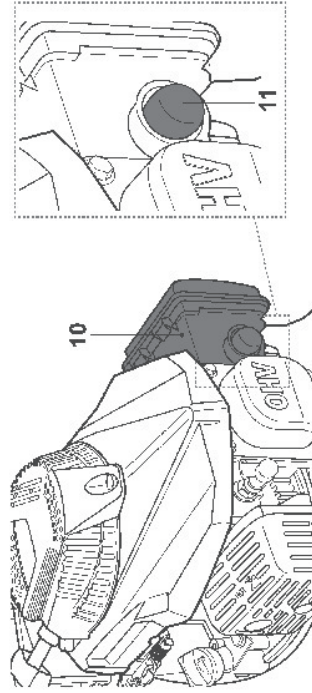

Fig. 12
The primer (11) is positioned at front of the air filter case (10). Use the primer when starting the product (Fig. 12).